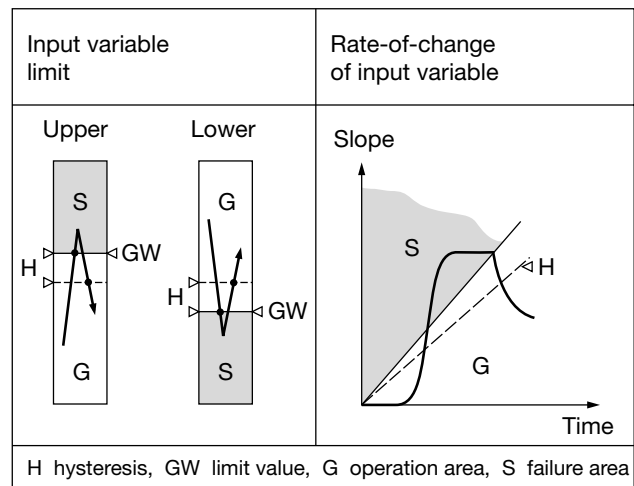

Fig. 3
- for monitoring the input variable in relation to a lower or upper limit between -10 and + 110%² (see left side of Fig. 3)
between ± 1 and $\pm 50\%^2/\text{s}$ (see right side of Fig. 3)